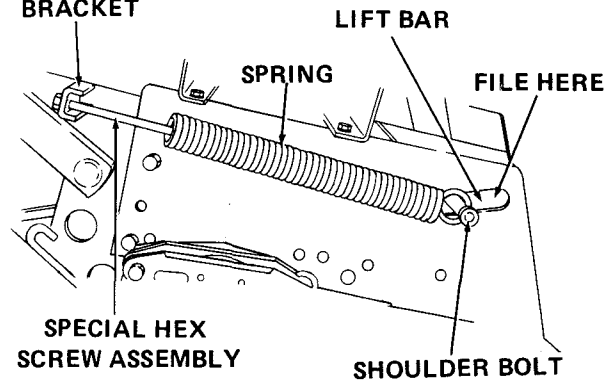

Figure B-26
14. Install spring (12) as follows. Refer to Figure B-26.
- a. Thread shoulder bolt (W) to lift bar through slot in frame. Refer to Figure B-26.
- d. Place one flat washer (X) onto special hex screw assembly (Y) and insert assembly through hole in spring anchor bracket.